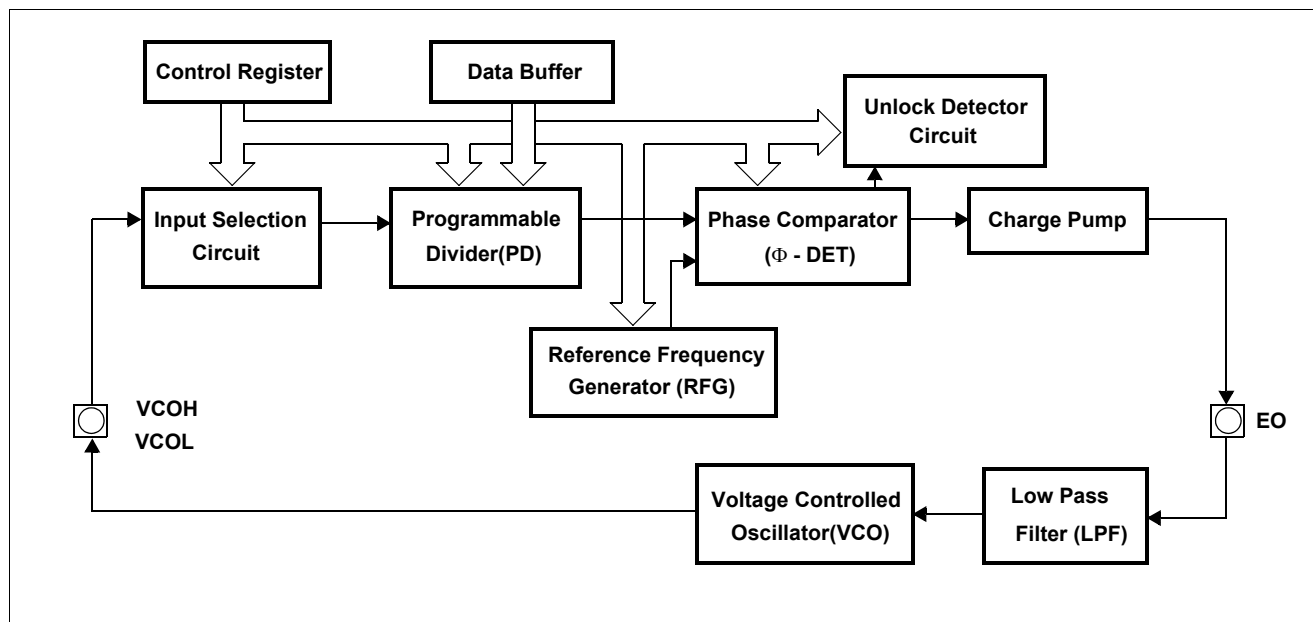

Figure 3-37 PLL Frequency Synthesizer Block Diagram
Figure 3-37 shows the PLL frequency synthesizer block diagram.
As shown in Figure 3-37, the PLL frequency synthesizer consists of an input selection circuit, programmable divider (PD), phase comparator (Phase-DET) and reference frequency generator (RFG). These blocks are connected to charge pump, an external low-pass filter (LPF) and voltage controlled oscillator (VCO). The PLL frequency synthesizer also has an internal CMOS operational amplifier so that it can be used as an external low-pass filter amplifier.